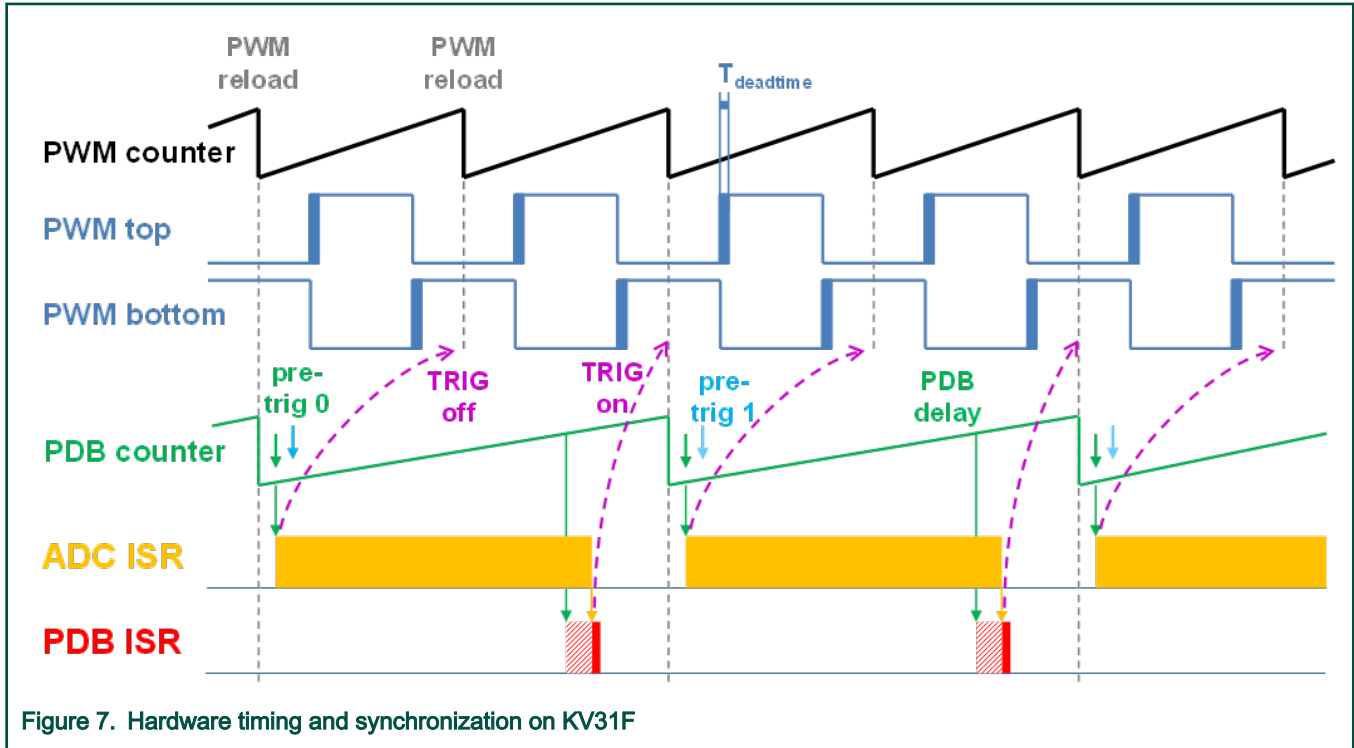

Figure 7. Hardware timing and synchronization on KV31F
Correct and precise timing is crucial for motor-control applications. Therefore, the motor-control-dedicated peripherals take care of the timing and synchronization at the hardware layer. It is also possible to set the PWM frequency as a multiple of the ADC interrupt (FOC fast control loop execution) frequency and thus lower the CPU load at the cost of a longer sampling period. The $FOCfreq = PWMfreq$ configuration is used by default. The low-priority synchronous tasks are executed in a slow loop interrupt generated via FTM. The timing diagram is shown in Figure 7.
- The top signal (**PWM counter** in Figure 7) shows the FTM counter value and its reloads (marked as **PWM reload** events). The FTM generates the **PWM top** and **PWM bottom** signals with the PWMfreq frequency. The $T_{deadtime}$ is inserted to avoid the DC-bus shoot-through. The PDB is triggered (its counter is reset) by the **FTM_TRIG** signal, which is generated together with the **PWM reload** event.
- The fast control loop interrupt (ADC ISR in Figure 7) is triggered when the conversion is complete.
- The PDB Sequence Error and PDB Delay interrupts have a common interrupt vector. Which event generated the interrupt is determined at the beginning of the interrupt (**PDB ISR** in Figure 7), based on the ERR flag.